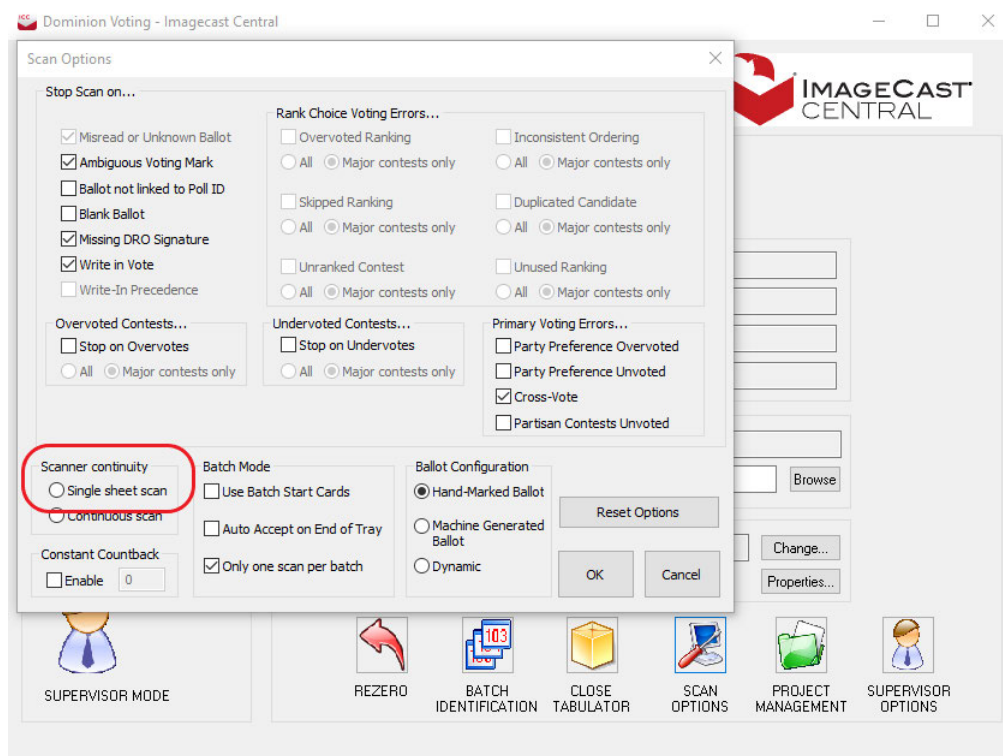

Figure 2-7: Scan Options Dialog Box
- a. Select the **Single Sheet Scan** check box. See Figure 2-7.